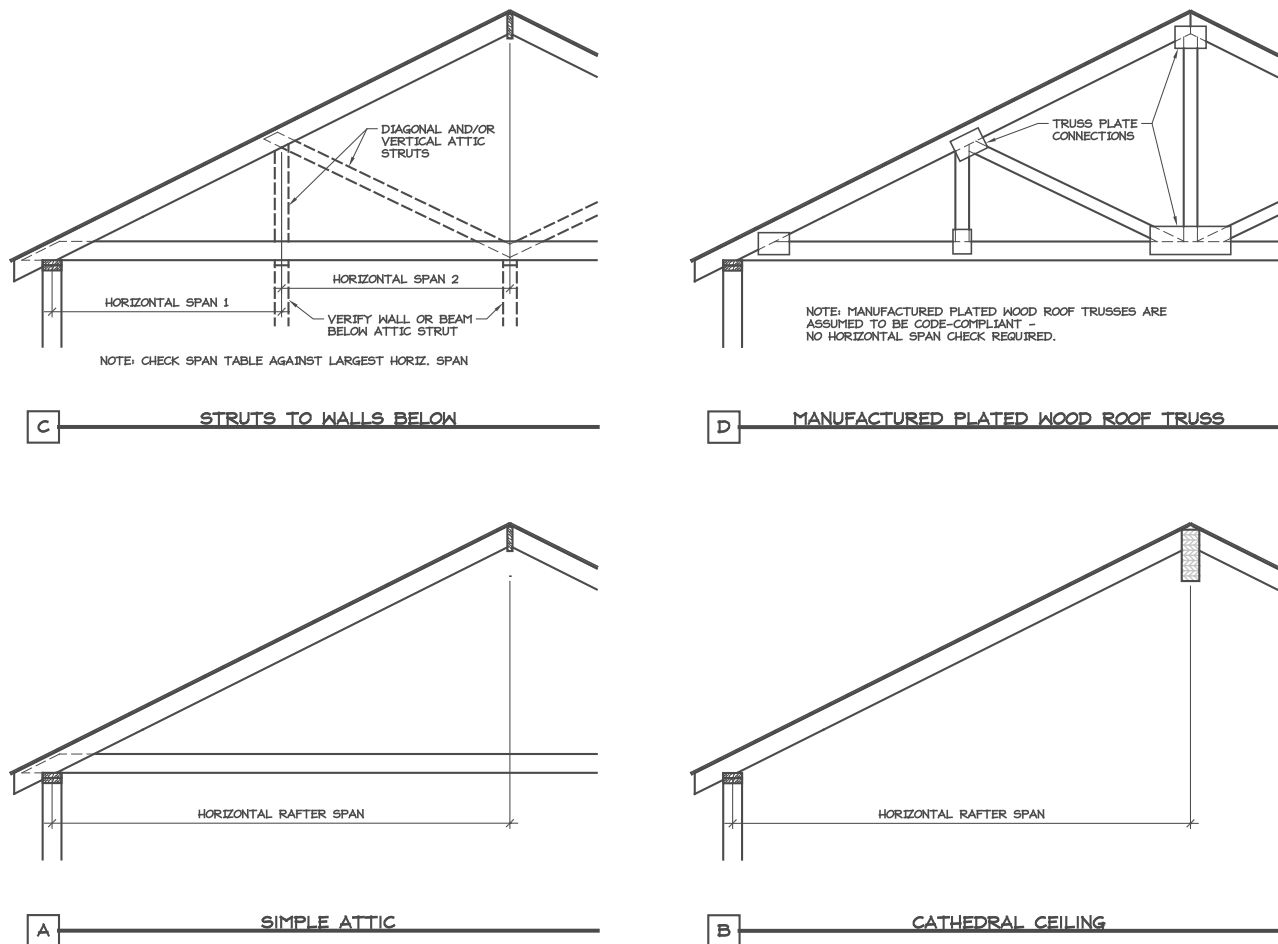

Figure 4. Definition of Rafter Horizontal Span.
- 5) Measured rafter horizontal span (see Figure 4): _____' - _____"ft-in
- See Figure 4 for definition of roof rafter maximum horizontal span.